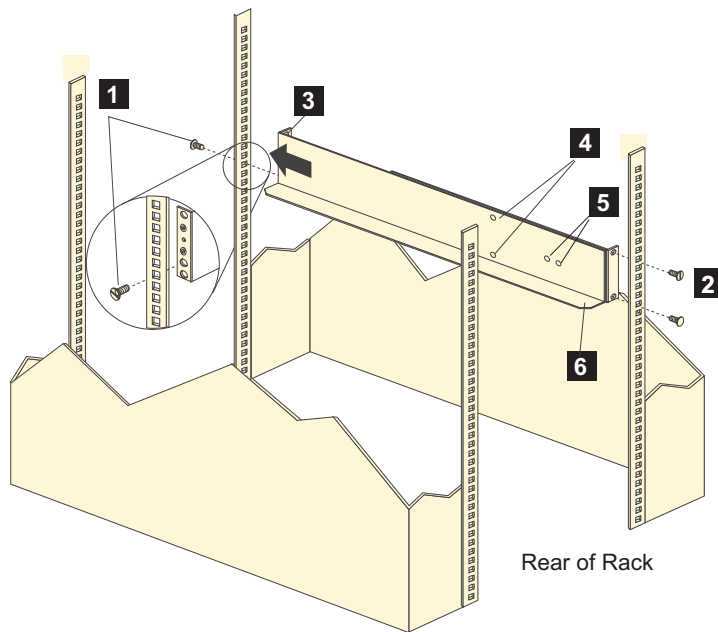

Figure 11. Installing the support rails
Note: Refer to Figure 11 on page 26 while performing these steps.
Note: The support rails are not marked as left or right. However, each rail can be correctly mounted on only one side of the rack cabinet. The rails should be mounted with the alignment pins at the back of the rack. Figure 11 on page 26 shows the installation of the left support rail.
2. Remove the four screws from the rails (two screws in each rail). See **4** in Figure 11 on page 26. If you do not remove these screws, the storage expansion enclosure will not fit securely.